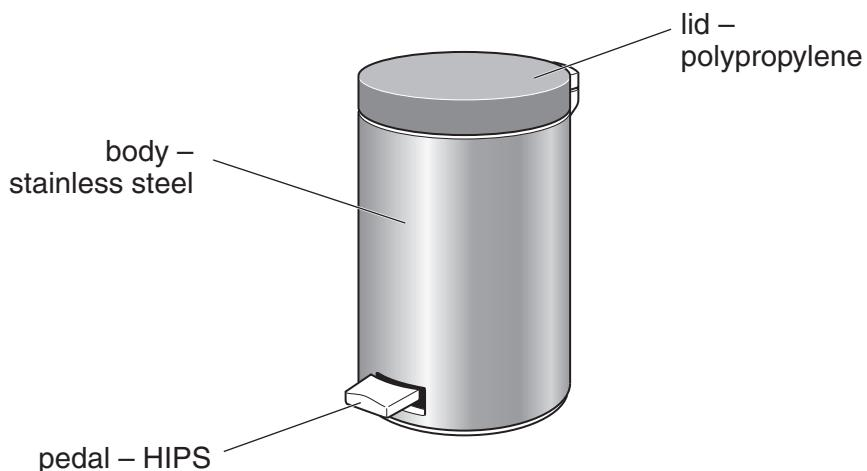

Fig. 5
- 5 Fig. 5 shows a kitchen pedal bin.
- (a) Complete the list below by adding **two** more important specification points for the kitchen pedal bin shown in Fig. 5.
- (b) Name the industrial process used to produce the polypropylene lid shown in Fig. 5.
(d)* The pedal bin shown in Fig. 5 is made from a variety of different materials.